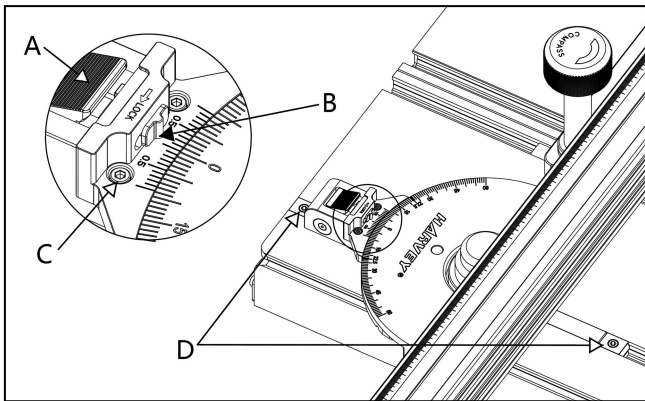

Fig.20
(1) Lock the guide bar by rotating the lock screw (D) counterclockwise with a 4mm hex wrench, as shown in **Fig. 20**.
(2) As shown in **Fig. 20**, place the slide button (B) in the unlock position. Then press the swing locating block (A) and adjust the fence to 90°. Check if the cursor line aligns with the 0° graduation. If any deviation occurs, loosen the two lock screws (C) and adjust the cursor.
10.1 Angle Positioning (Fig. 20)
(1) Using the positive stops
The miter gauge has 9 commonly used positive stops: 0°, ±22.5°, ±30°, ±45° and ±60°. As shown in **Fig.20**, loosen the fence lock handle, then rotate the miter gauge body to the desired angle while keeping the swing locating block (A) pressed. When you get close to the desired angle, just release the swing locating block (A) and slightly rotate the miter gauge, it will be locked to the positive stop automatically. Tighten the fence lock handle after swinging the fence slightly.
(2) Adjusting free miter angles